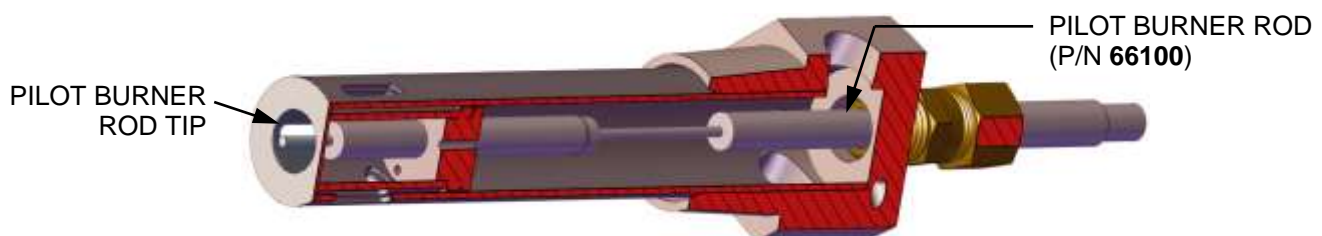

Figure 4-1b: Pilot Burner & Pilot Ignition Rod – Cross-Section
8. Check the tip of Pilot Ignition Rod (P/N **66100**) for evidence of erosion or carbon build-up (see Figure 4-1b, above). If carbon build-up is present, clean the component using a wire brush, however, if there is evidence of substantial erosion, the Pilot Ignition Rod should be replaced. If the Pilot Burner itself is damaged or deformed, replace the Pilot Burner (P/N **29700**).